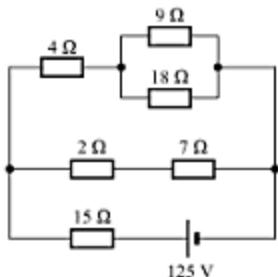

Fig. 2.47
21. In the circuit shown in Fig. 2.47, find (a) the current in $15\text{-}\Omega$ resistance, (b) the voltage across $18\text{-}\Omega$ resistance, and (c) the power dissipated in $7\text{-}\Omega$ resistance.